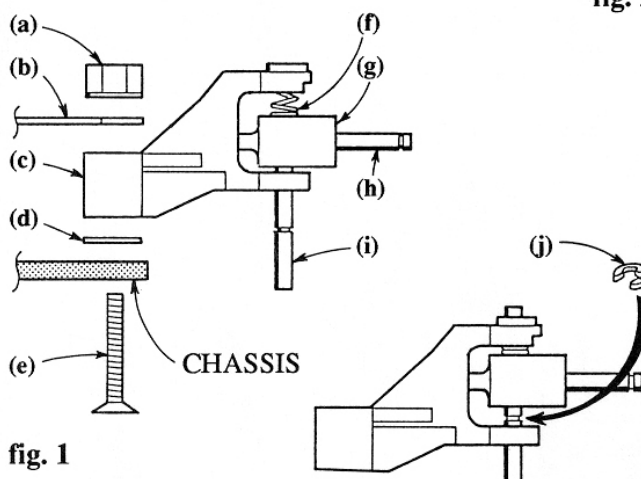

fig. 1
STEP 1 Insert a stub axle (h) (fig. 1) into each steering block (g) from the square hole side. Put a c-clip on the square hole end of the axle. Drive the axle through carefully until the clip stops the axle.
STEP 2 Start the kingpin (i) (fig. 1) up through the bottom of the suspension arm (c), then through the steering block (g) and spring (f). Push the kingpin the rest of the way into the suspension arm.
STEP 6 Mount the suspension arms to the chassis (fig.1) with the 8-32 screws provided, long screws (e) through the front holes, short ones through the rear holes. Then slip the cross brace (b) on the forward screws (e), holding it down with the 8-32 nylon locknuts (a).